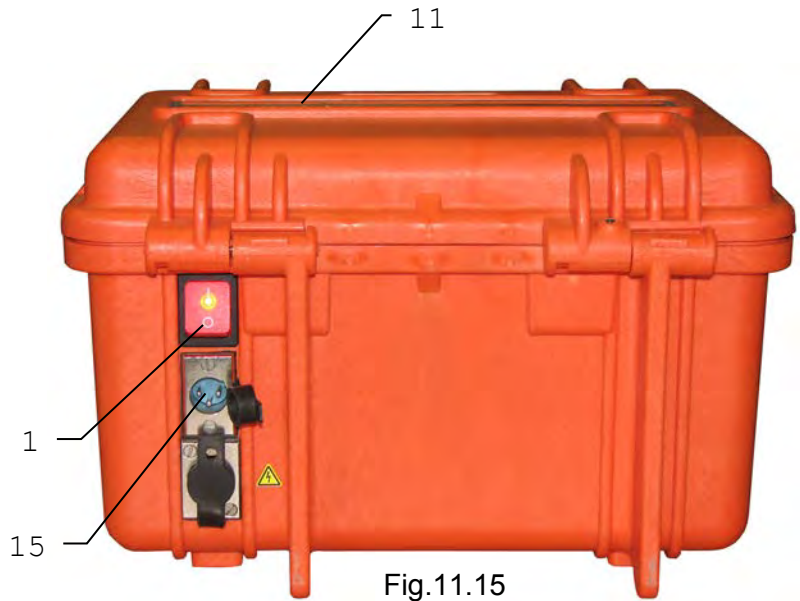

Fig.11.15
The waterproof instrument (**IP54**) allows operation under precipitations when the cover is closed providing the on-line adjustment of parameters is not required. The power is turned on/off with external waterproof power switch «I/O» pos. 1 figure 11.15. The readings are monitored through the transparent window in the cover pos. 11 figure 11.15. Make sure the required mode is selected and start the transmission before closing the cover. Every time the power is turned on with the closed cover the system shall restart this mode (except for «AC» and «AP») with automatic matching. The transmission is indicated by highlighting of the external switch. The free connectors on the rear panel are protected by rubber plugs.
The additional accumulator (12/24V) or power adapter output (15 V) can be connected to the upper connector of the rear panel pos.15 figure 11.15.